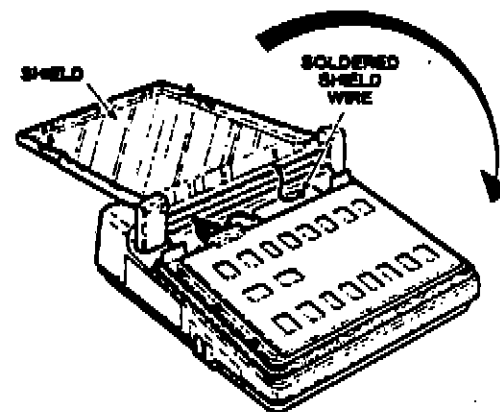

Figure 3-19. Unsoldering the Shield Wire
4. Separate the display from the top cover and carefully rotate the display about 90 degrees. Locate the wire coming from the shield to the controls assembly, as shown in Figure 3-19.